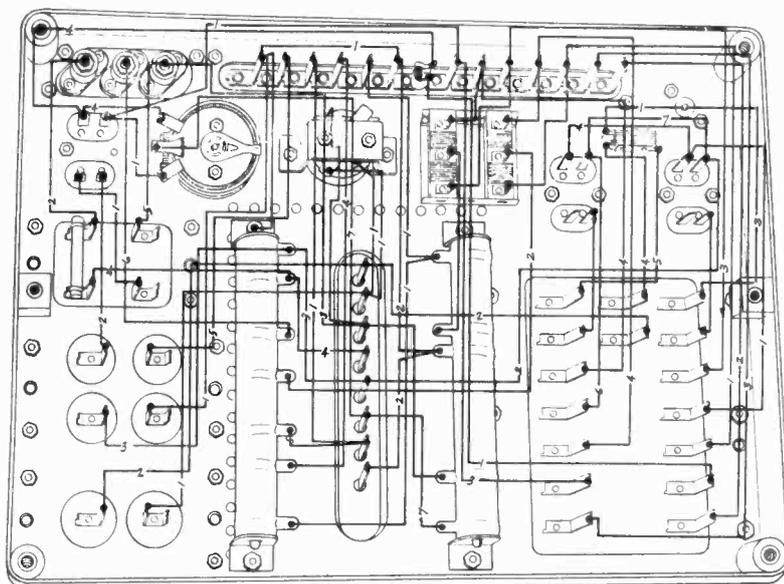

**Fig. 4—Method of Adjusting
- Adjusting compensating condenser, as shown in Fig. 4, by means of the neutralizing screw driver shown in Fig. 2 of Supplement to Service Bulletin No. 5-A. The following procedure should be used: